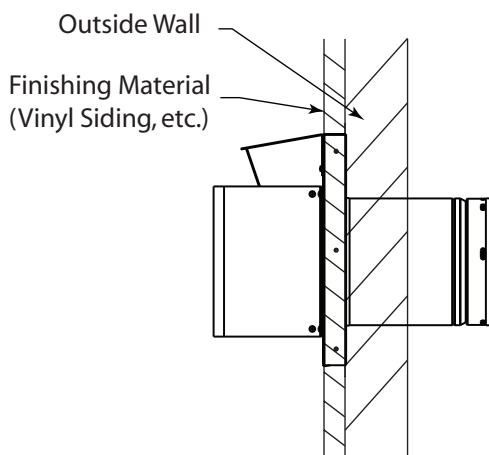

Figure 1 - Termination Cap on Wall
- Termination cap **MUST NOT** be recessed into a wall (see Figure 1).